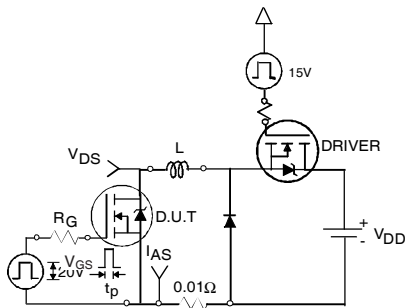

Fig 18a. Unclamped Inductive Test Circuit
| I_{AR} | Avalanche Current ⑦ | See Fig.18a, 18b, 16, 17 | A |
3. Equation below based on circuit and waveforms shown in Figures 18a, 18b.